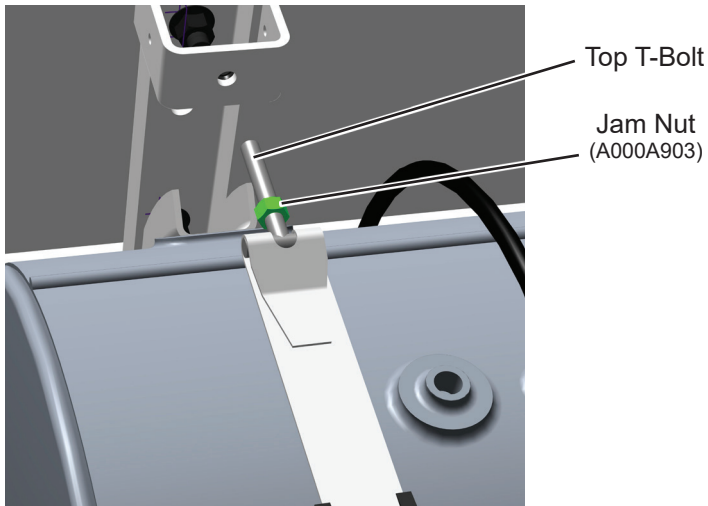

Figure 3 - Jam Nut
6. Install jam nuts (A000A903) on tank strap top T-bolts, fully thread jam nuts onto T-bolts. See Figure 3.